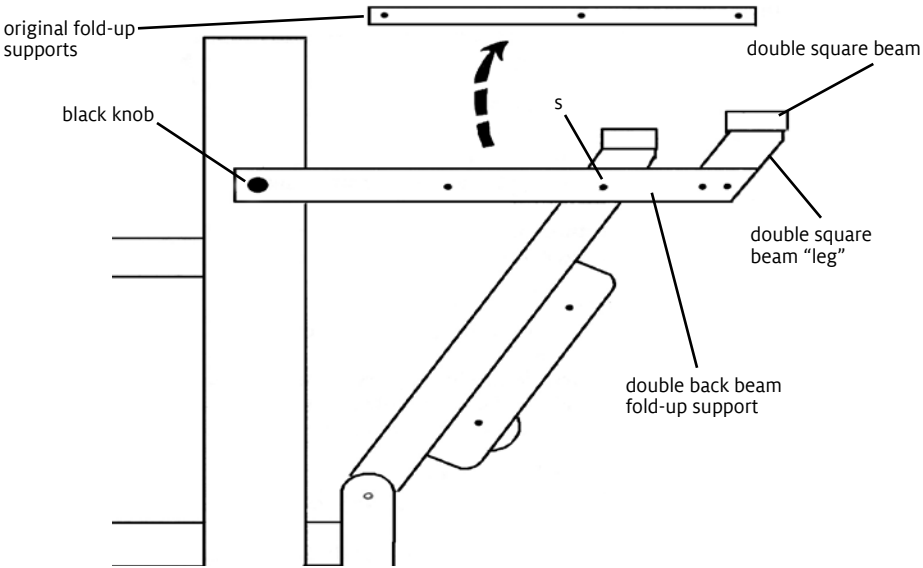

FIGURE 3
**INSTALL NEW FOLD-UP SUPPORTS (FIGURE 3)**
8. Place the double square beam on the double square beam legs (see figure 3).